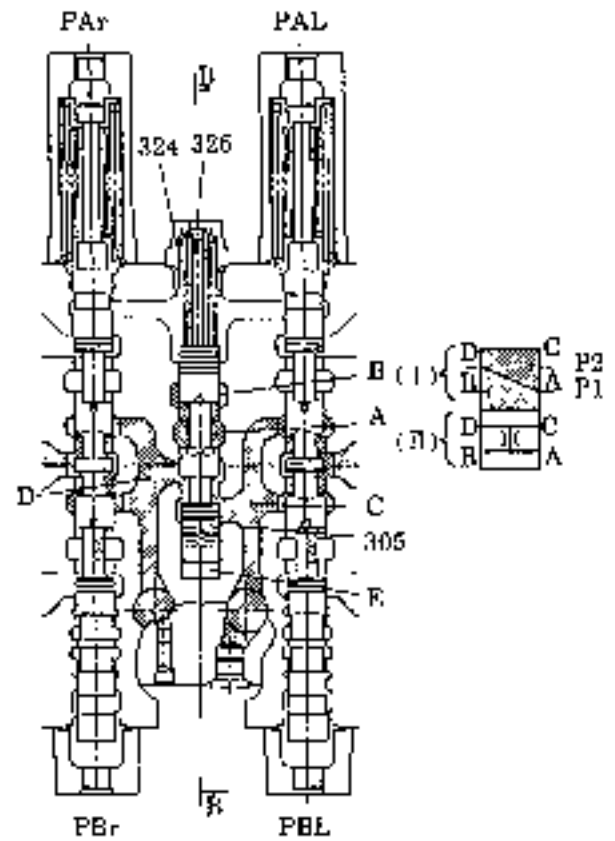

Fig. 16 Function of travel straight valve
(3) Function of travel straight valve in Fig. 16, travel straight spool (305) is pressed down to the bottom end by spring (324), (325). When only attachment or travel motion is performed, spool (305) is fixed by position [ I ]. If attachment and travel motions are carried out at same time, spool (305) shifts to take position [ II ] as the side bypass circuits (63), (64) pressure is increased